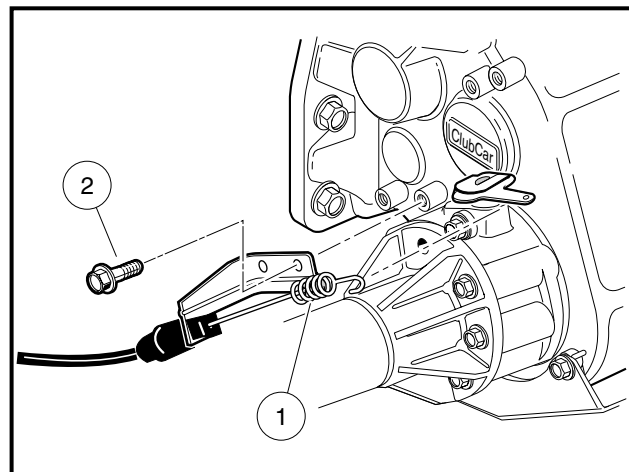

Figure 16a-94 Differential Lock Bracket Installation
7. Install the accelerator cable bracket on transaxle case. Tighten the mounting screws to 134 in-lb (15.1 N·m) (**Figure 16a-95, Page 16a-43**).